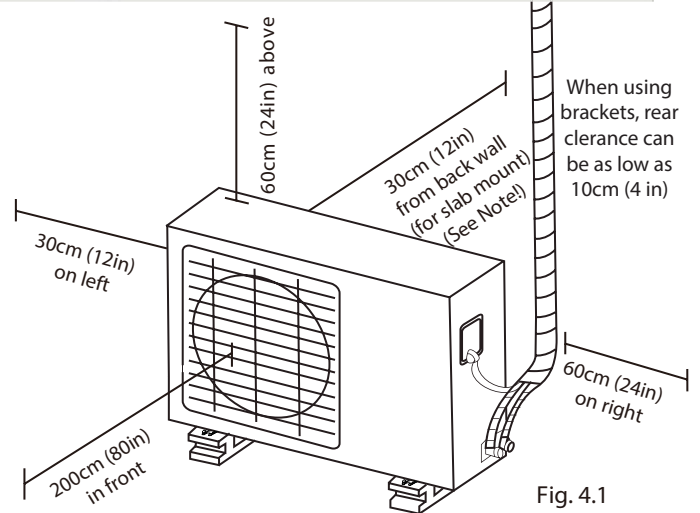

Fig. 4.1
- ☑ Meets all spatial requirements shown in “Installation Space Requirements” (Fig. 4.1)
Additional note when using wall mounting brackets: Please note that the rear clearance required as shown in Fig 4.1 is not as strict when using wall mounting brackets. Minimum rear clearance when using wall mounting brackets is 10 cm (~4 inches).